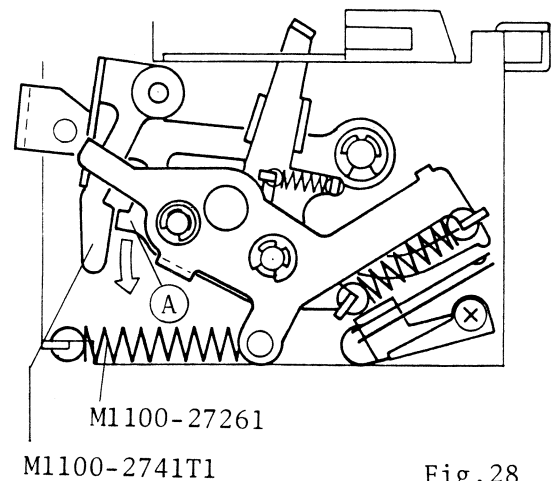

Fig.28
That is caused by the lever (A) is not hung on the M1100-2741T1 mirror latch as shown in Fig.28.
4. Replace the M1100-27261 spring with new one. (Fig. 28)